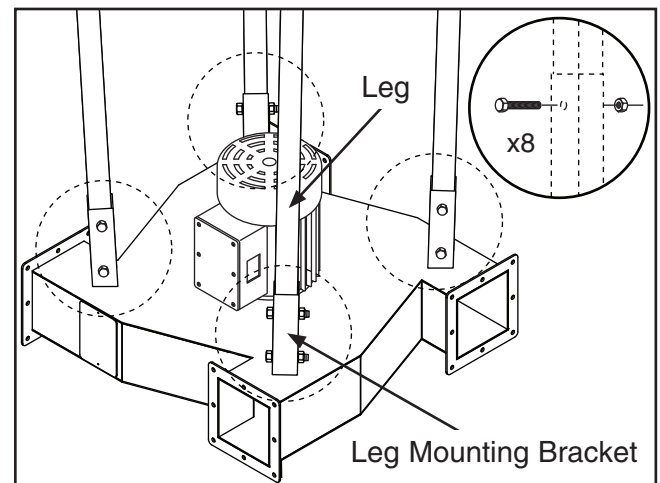

Figure 13. Attaching legs to impeller housing (Model G0673 shown).
2. Insert the legs into the leg mounting brackets and secure them with the eight $\frac{5}{16}$ "-18 x $2\frac{1}{2}$ " hex bolts and $\frac{5}{16}$ "-18 hex nuts, as shown in **Figure 13**. Do not yet fully tighten the nuts.